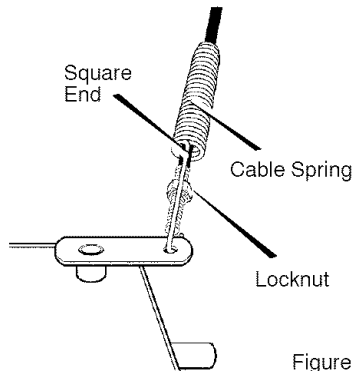

Figure 25
3. Push cable through spring to expose the threaded portion of the cable (see Figure 25).